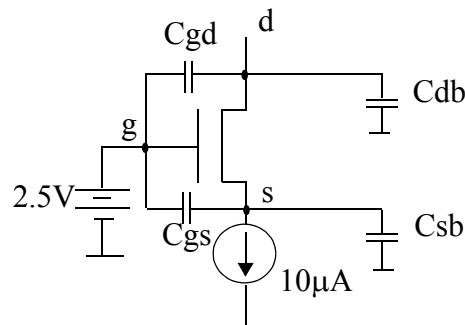

Figure 0.16 Device going through different operation regions over time
19. [M, None, 3.3.3] For the NMOS transistor in Figure 0.16, sketch the voltages at the source and at the drain as a function of time. Initially, both source and drain are at +2.5 volts. Note that the drain is open circuited. The $10 \mu\text{A}$ current source is turned on at $t=0$. Device parameters: $W/L_{\text{eff}} = 125\mu/0.25\mu$; $\mu C_{\text{ox}} = 100 \mu\text{A}/\text{V}^2$; $C_{\text{ox}} = 6\text{fF}/\mu^2$; $C_{\text{OL}}(\text{per width}) = 0.3 \text{ fF}/\mu$; $C_{\text{sb}} = 100 \text{ fF}$; $C_{\text{db}} = 100\text{fF}$; $V_{\text{DSAT}} = 1\text{V}$.